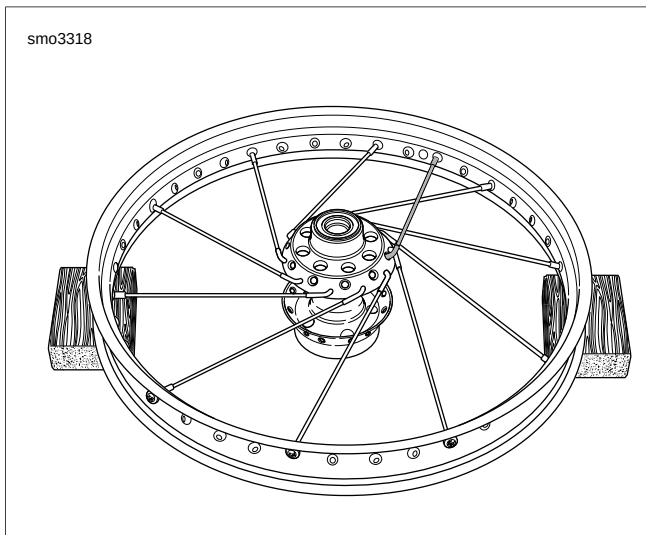

Figure 2-47. Spokes into Hub Upper Row
5. See Figure 2-47. Place the first **upper** row spoke into the hub as shown below. Angle the spoke counterclockwise crossing four lower row spokes. The spoke must enter the hole to the right of the valve stem hole.